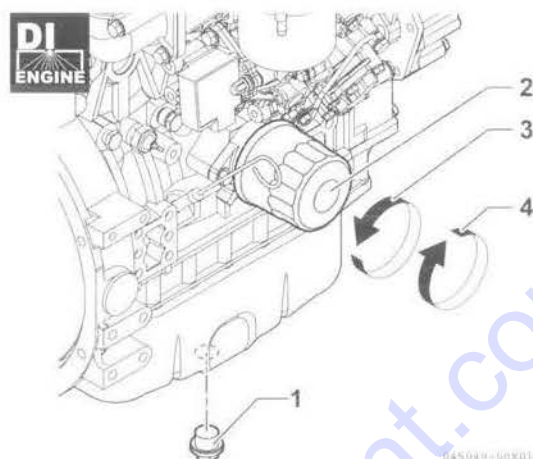

Figure 20
6. Remove the oil drain plug (1, Figure 20) from the engine oil pan. Allow oil to drain.
7. After all oil has been drained from the engine, reinstall the oil drain plug (1, Figure 20) and tighten to 40 - 47 ft-lb (53.9 - 63.7 N·m, 5.5 - 6.5 kgf·m).
1. Turn the engine oil filter (2, **Figure 20**) counterclockwise (3, **Figure 20**) using an oil filter wrench.
3. Lightly coat the gasket on the new oil filter with engine oil. Install the new engine oil filter manually by turning it clockwise (4, **Figure 20**) until it contacts the mounting surface. Tighten to 14 - 17 ft-lb (19.6 - 23.5 N·m, 2.0 - 2.4 kgf·m) or one additional turn using the oil filter wrench.